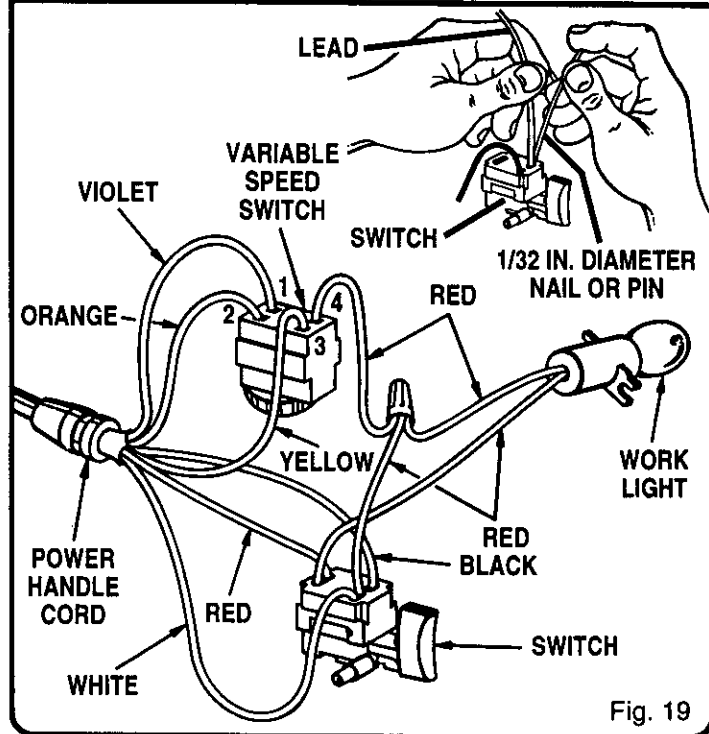

Fig. 19
- Remove leads from switch (D) by inserting a 1/32 in. diameter nail or pin into switch lead receptacle and pulling on lead as shown in figure 19. Remove nail or pin with a twisting, pulling motion.
- Make sure molded bend relief (C) is correctly positioned in switch handle, then replace handle cover and screws.